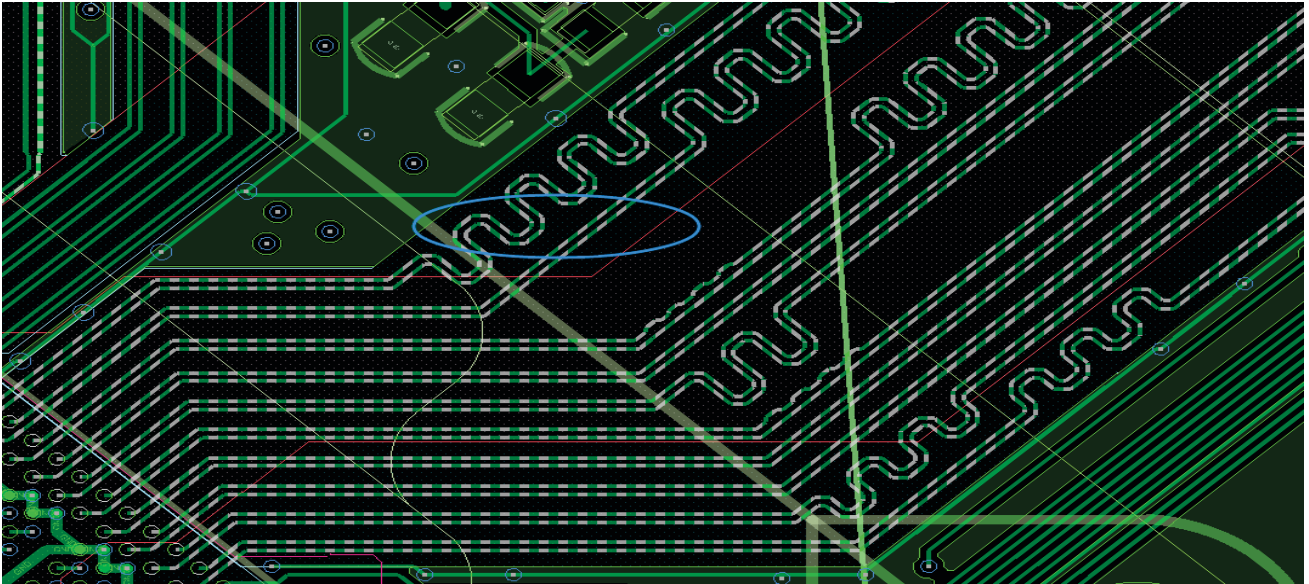

Figure 4-40 MIPI DSI Layout
- The series resistor should be placed close to PHY to improve EMI. Shown as Figure 4-40.